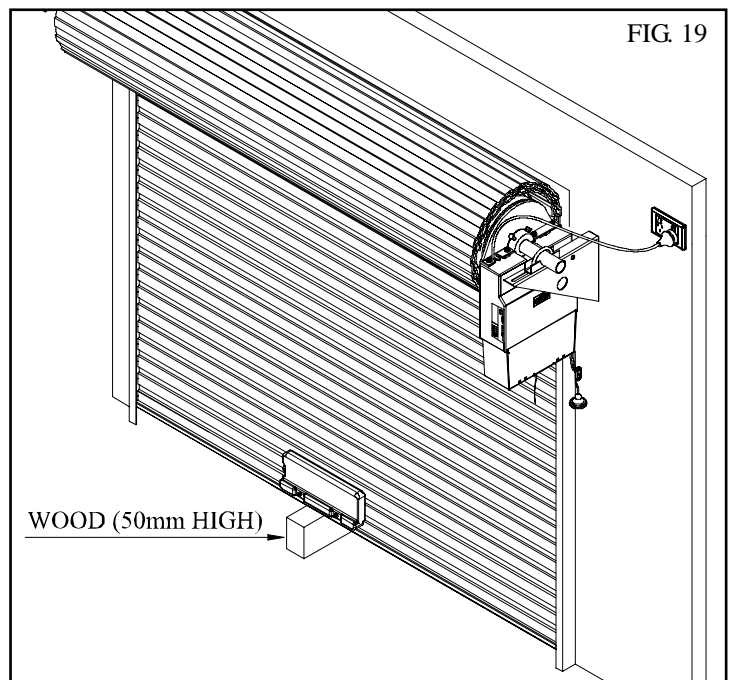

FIG. 19
2. Place a length of timber approximately 50mm high on the floor directly under the door (Fig. 19).